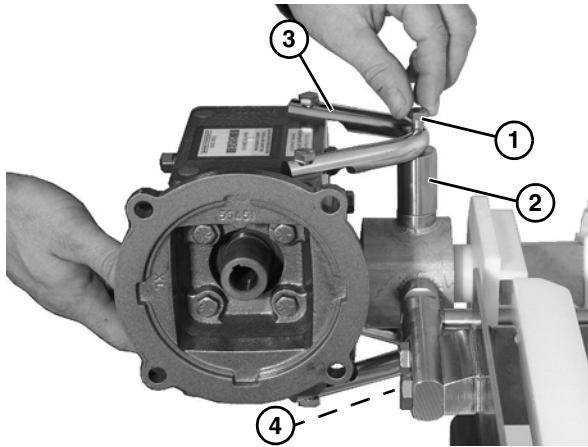

Figure 56
- Remove top bolt (Figure 56, item 1) and spacer (Figure 56, item 2) holding the bracket (Figure 56, item 3) to the drive assembly.
- Remove bottom bolt (Figure 56, item 4).